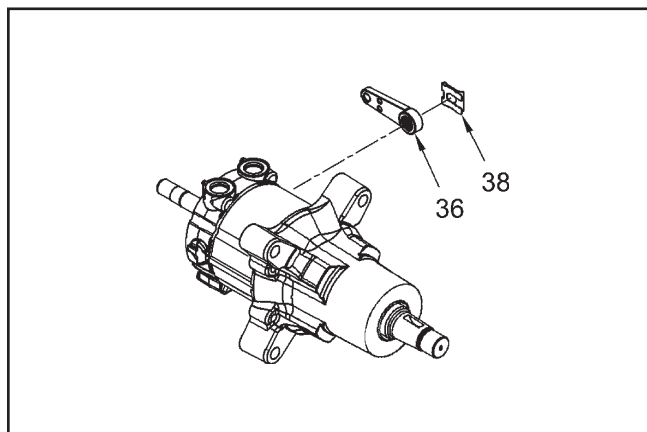
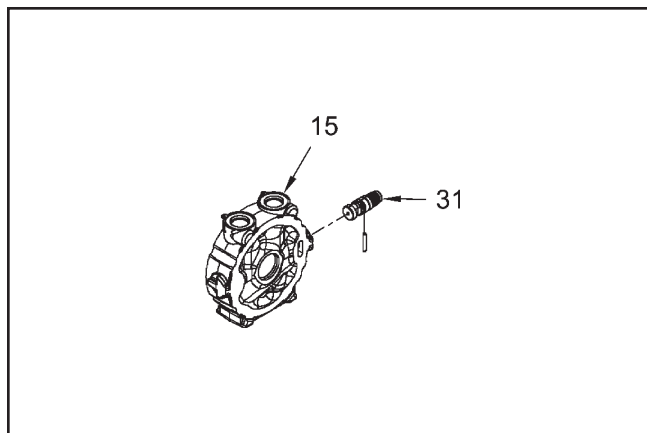

Figure 12
Figure 14
1. If the hub (56) has not been removed from the PRM®, remove the hex lock nut (55) with an impact wrench and discard. Remove the hub (56) and discard. If the axle shaft (34) turns during nut removal, manually apply the PRM brake actuating handle (36, Fig. 12) to prevent the axle from turning. Use a wheel or gear puller and the hub puller adapter, located in the seal kit, to remove the hub
9. To ease reassembly, mark the port block (15), and ring gear (23) prior to disassembly. Also mark the brake actuating handle (36, Fig. 12) and brake cam (31, Fig. 14).